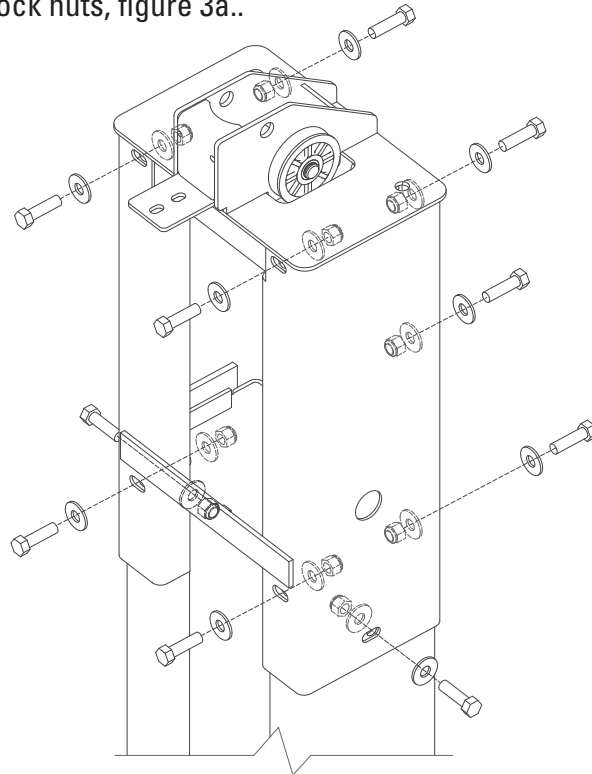
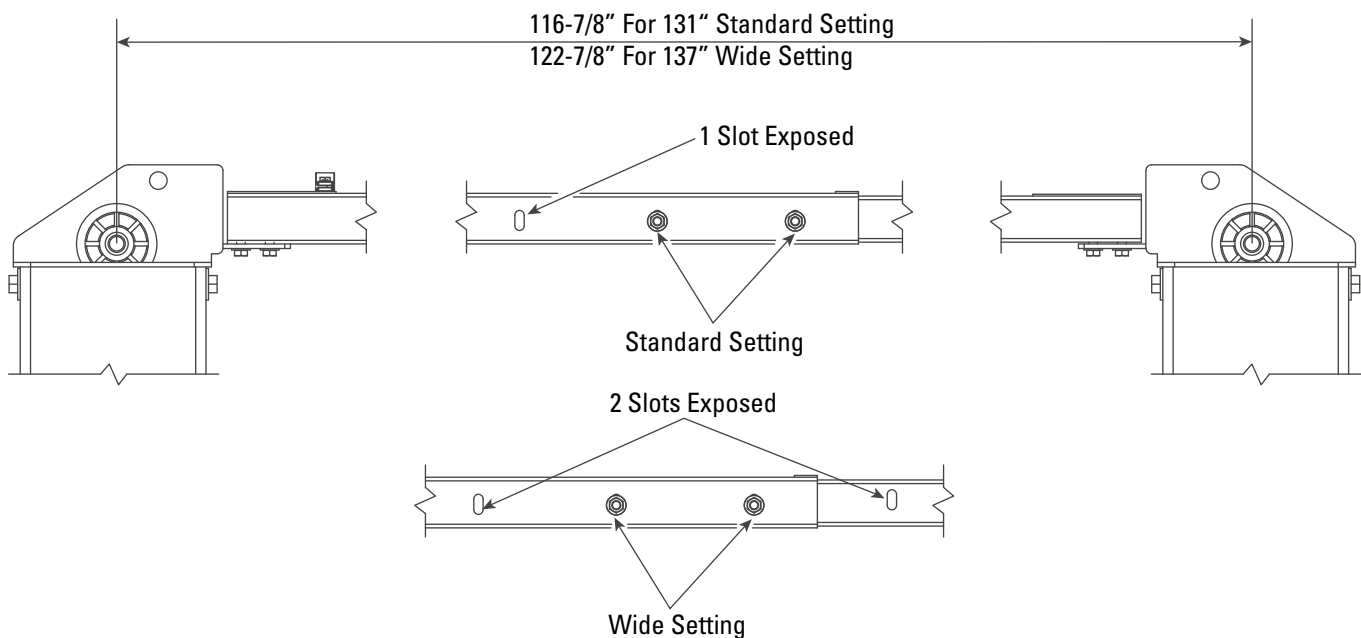

Figure 3
Figure 3a
4. **Attach the uprights.** Attach the uprights and cylinder mounts to the legs using (10) 1/2"-13NC x 1" bolts, flat washers and lock nuts as shown in figure 3. Assemble overhead beam using (2) M10 x 1.5 bolts and M10 serrated flanged lock nuts, figure 3a..